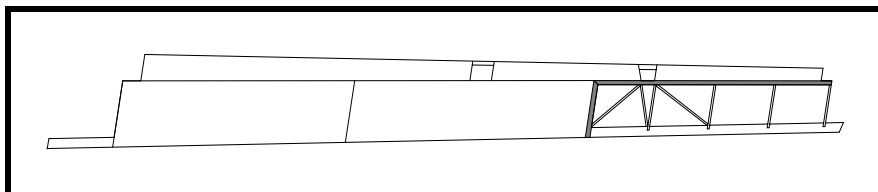

Figure 31
- ☐ Install the upper trailing edge skin between Sta. 6 and 10. See Figure 31.